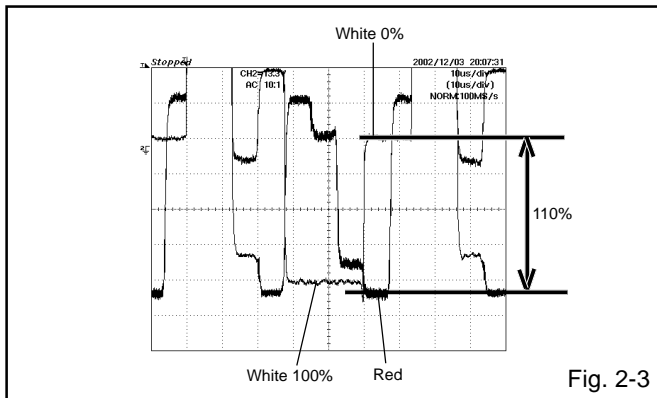

Fig. 2-3
7. Press the VOL. UP/DOWN button on the remote control until the red color level is adjusted to  $110 \pm 10\%$  of the white level. (Refer to Fig. 2-3)